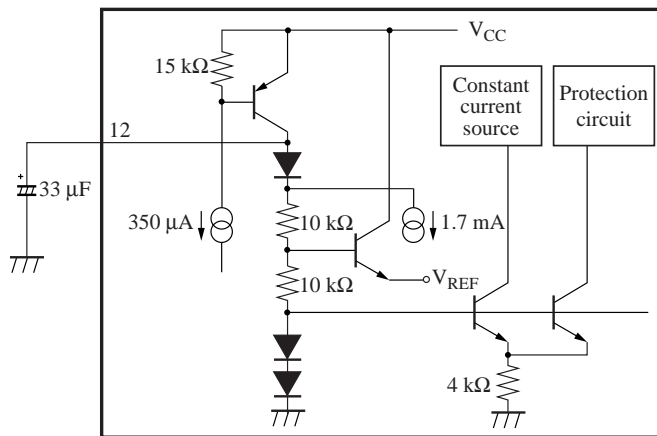

Figure 5
- (4) The DC voltage of output terminal is approximately the middle point of the ripple filter terminal voltage.
- (5) The internal circuit of ripple filter terminal is as shown in Figure 5 and the charge current is approx. 3 mA to 10 mA.
- (6) After the power supply is turned off (STB-low), it takes 10 seconds or less for the total circuit current to become the standby current (under 10  $\mu$ A). If approx. 47 k $\Omega$  resistor is inserted between the ripple filter terminal and GND for the purpose of reducing the inspection time with set, a time until the current becomes the standby current can be shortened.